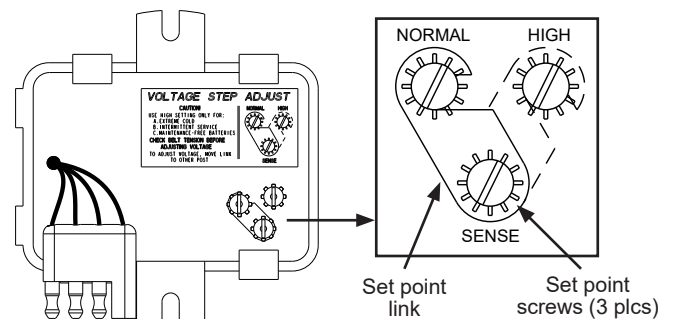

Figure 3: Set Regulator Set Point
3. Check regulator set point and adjust if necessary before installation. See Figure 3.